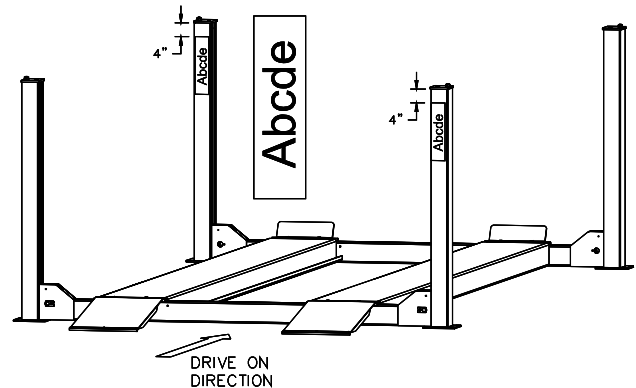

Fig 20 – Decal Placement
46) Apply decal 4" from top of columns, **Fig 20**.